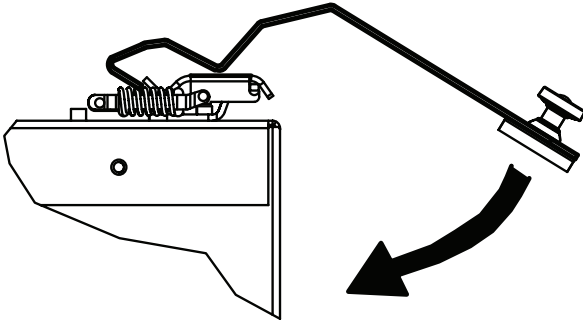

Figure 20 - Latch Opener
2. Hook opener over latch as shown in **Figure 20**. Swing the bottom of the opener down toward the door. You will not need to pull down.